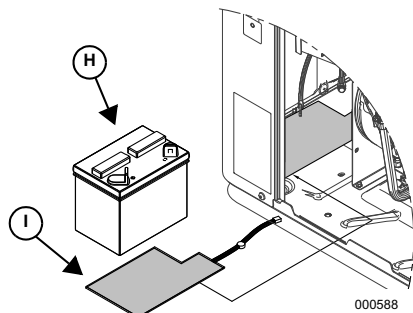

**Figure 1.**
3. Remove roof (A), back panel (B), and retain fasteners (C). Unhook and remove front panel (D). Remove battery access panel (E) to gain access to battery. Also, remove electrical access panel (F) to access wiring. (See Figure 1).